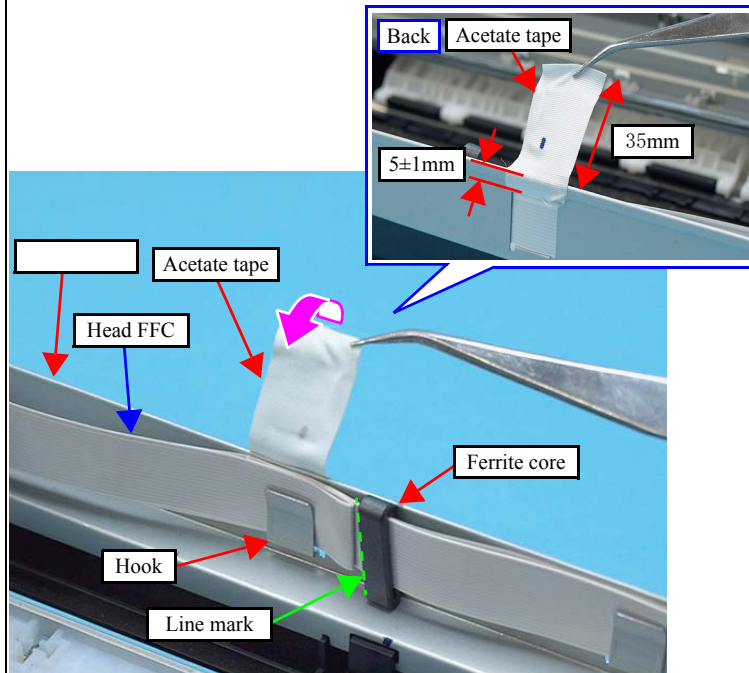

Figure 4-48. Acetate tape position
2. Secure the FFC to the Front Frame with the acetate tape shown in Figure 4-48.